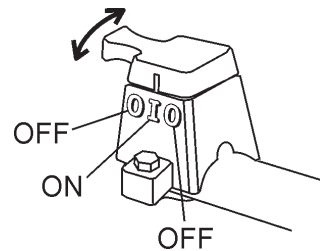

Figure 24. Engine Shutdown Switch
2. Turn the **engine Shutdown switch** (next to the handle lock) (Figure 24) to the **"OFF"** position. Shutting the engine off using this switch confirms that it is functioning properly.